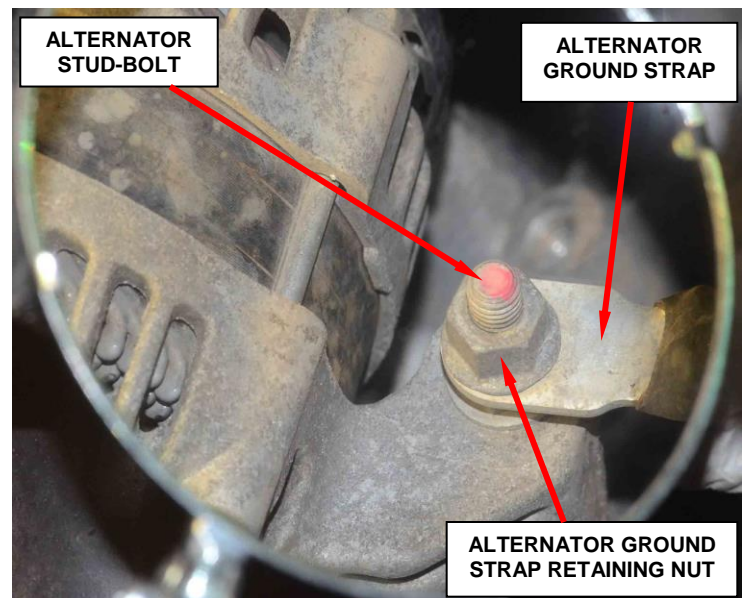

Figure 7 – Alternator Ground Strap
7. Remove and save the alternator ground strap retaining nut (Figure 7).
15. Install the ground wire on the mounting stud-bolt (Figure 7).